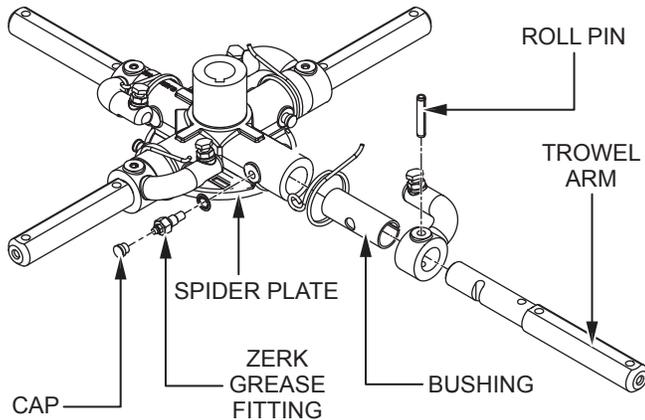

Figure 54. Trowel Arm Removal
1. Each trowel arm is held in place at the spider plate by a **Zerk grease fitting (hex head bolt)**. Remove the Zerk grease fitting and the **roll pin** from the **spider plate** (Figure 54).
2. Remove the **trowel arm** from the spider plate (Figure 54).
3. Carefully remove the **trowel arm bushing** (Figure 54).